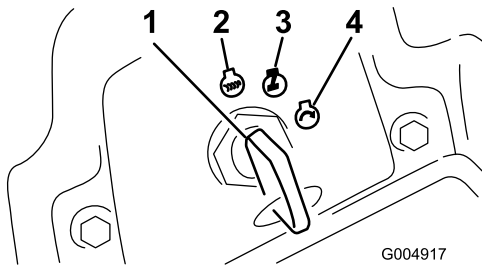

Figure 16
6. Turn the ignition key clockwise to the Run position (Figure 16).
3. Turn the ignition key to the Off position (Figure 16). Wait for all moving parts to stop before leaving the operating position.